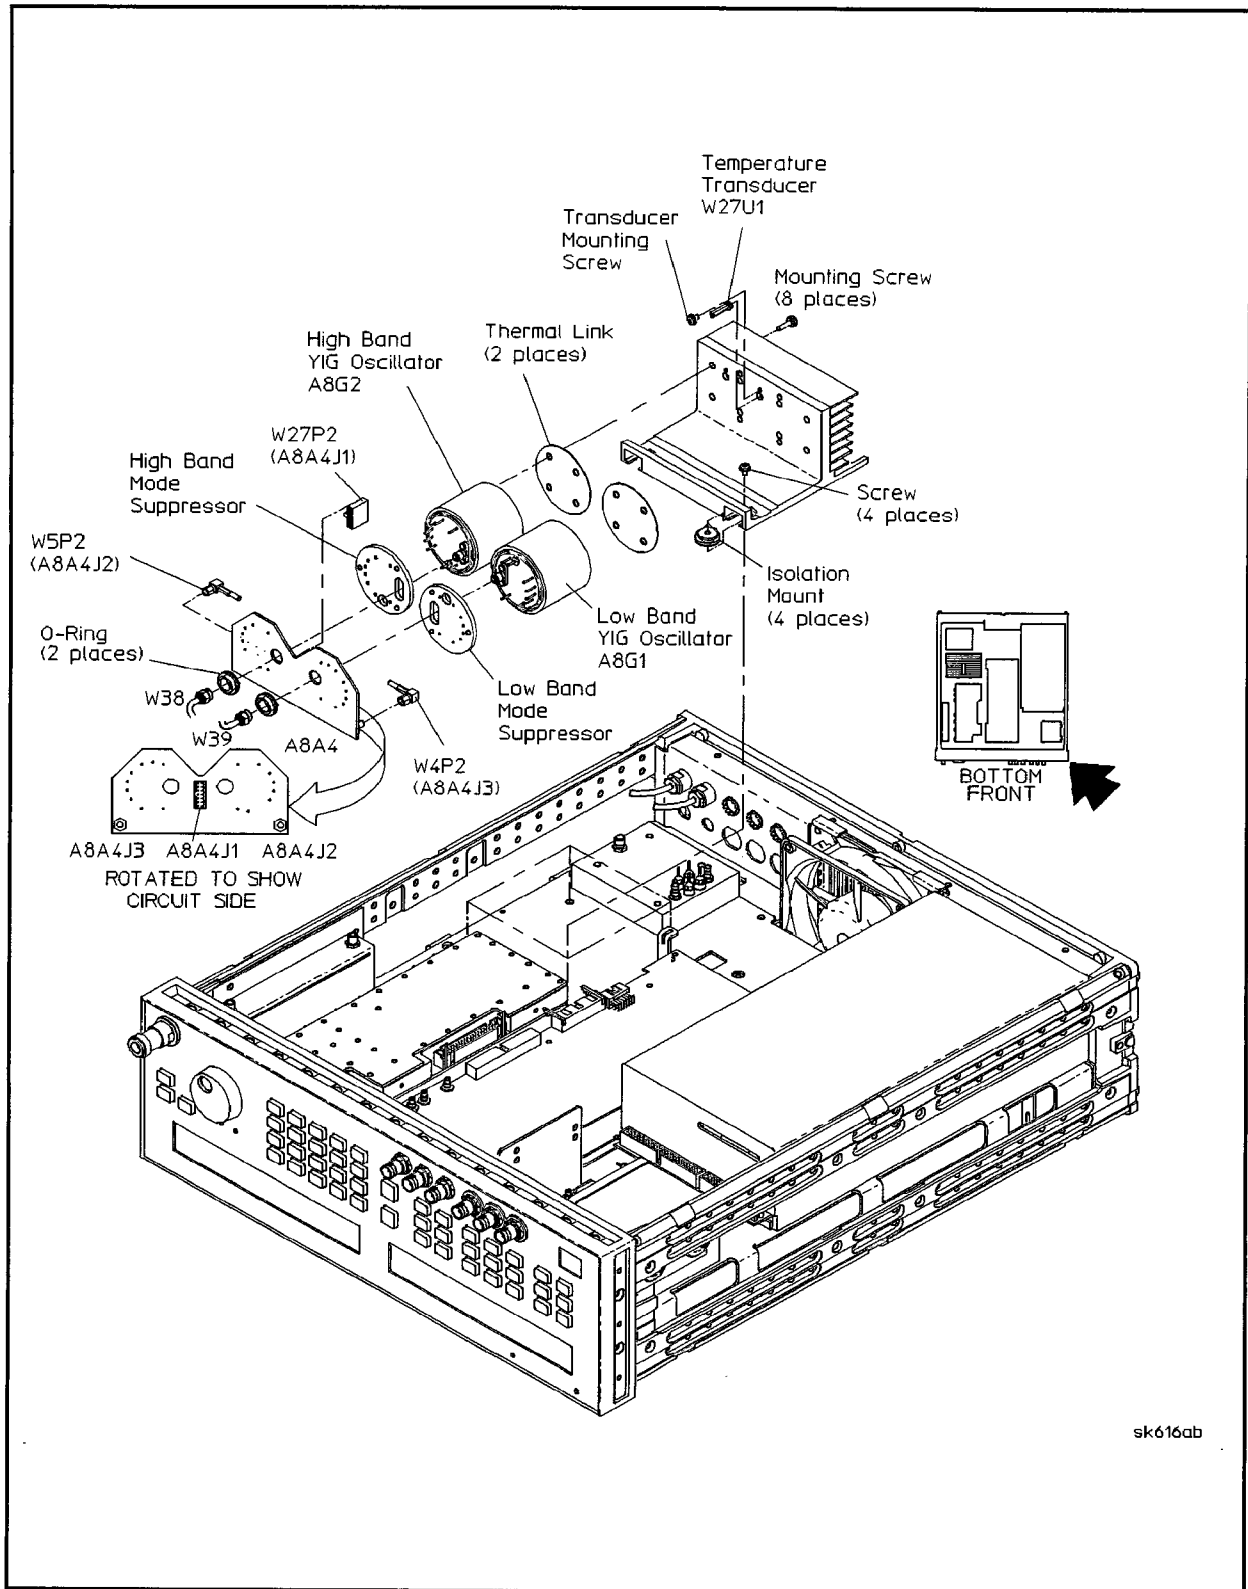

Figure 5-33. YIG Oscillator Removal
3. In the "Special Techniques" section of this chapter, refer to "Semi-Rigid Coaxial Cables" and Figure 5-33. Then, using a 5/16 in open end wrench, remove the following two semi-rigid coaxial cables connecting the YIG oscillators to the output module:
5. Lift up W19 (step attenuator grey ribbon) cable in order to expose two of the four isolation mounts and heatsink mounting screws. See Figure 5-33.
6. Using a size 15 TORX® screwdriver, remove these four screws. See Figure 5-33.
8. Using a *slight* side to side rocking motion, carefully loosen and pull off the printed circuit board, A8A4, from the YIG Oscillators. See Figure 5-33.
10. Using a 7/64 inch Posidriv® screwdriver, remove the four oscillator mounting screws from the YIG Oscillator and Heatsink. Refer to Figure 5-33.
12. Refer to "Semi-Rigid Coaxial Cables" as well as Figure 5-33 and then connect the following:
3. In the "Special Techniques" section of this chapter, refer to "Semi-Rigid Coaxial Cables," Figure 5-33, and then remove cable W39 from low band oscillator output A8G1J1 and output module 2–10 GHz IN, A8A1J36.